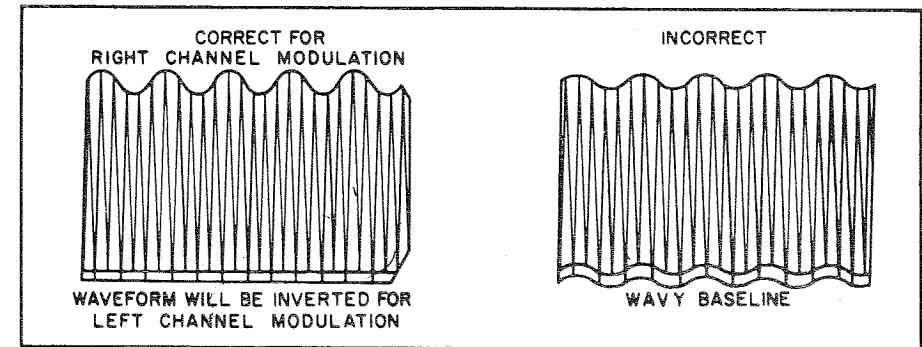

Figure 9. Waveform At Test Point 402.
- (6) Turn R107 SEPARATION CONTROL (on preamplifier board) CW to maximum resistance setting. Adjust core of Z403 (on AM/FM IF, MPX board) for maximum gain and as straight a base-line as possible on scope (see Figure 9). AC VTVM should read minimum.
- (7) With MPX generator modulated on right channel only, connect AC VTVM to RIGHT RCDR OUT jack. Record reading on AC VTVM.
- (8) Set MPX generator to modulate left channel only. Adjust R107 SEPARATION CONTROL (on preamplifier board) for minimum reading on AC VTVM; at least 30 dB below reading recorded in step (7). Record reading.
- (9) Connect AC VTVM to LEFT RCDR OUT jack. Same reading ± 2 dB as recorded in step (7).
- (10) Set MPX generator to modulate right channel only. Same reading ± 3 dB as recorded in step (8).
- NOTE:** If equal readings cannot be obtained in steps (8) and (10), readjust Z402 slightly (on AM/FM IF, MPX board) and repeat steps (7) through (10).